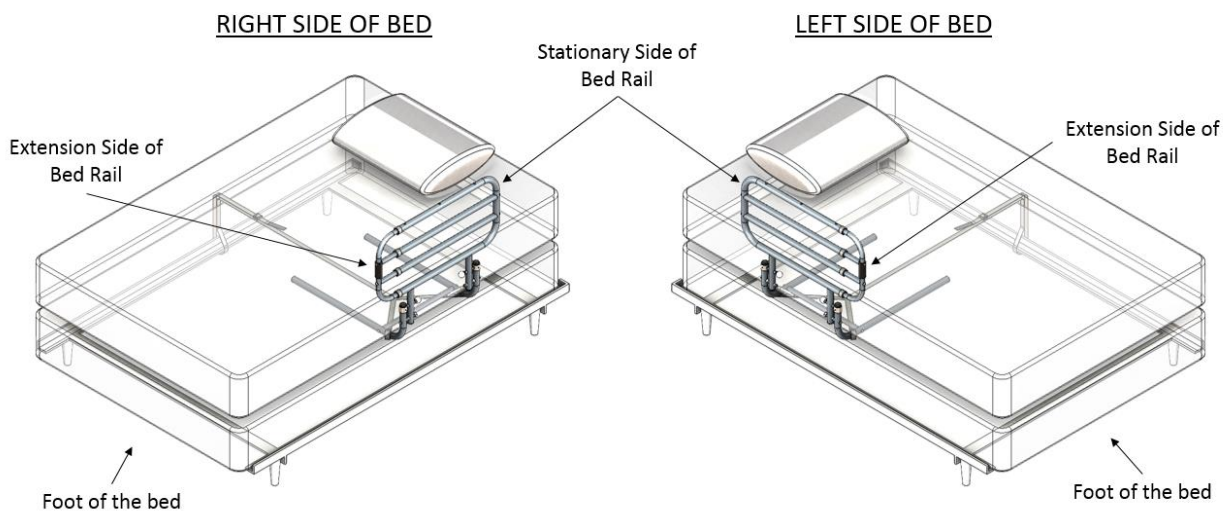

FIGURE 6
6. Align the MAIN HANDLE so the extension side of the bed rail is closest to the foot of the bed, as shown in Figure 6.